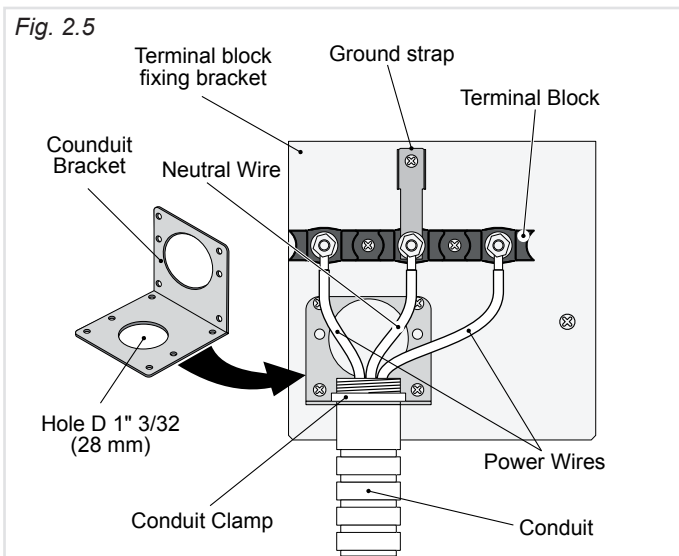

Fig. 2.5
2. Check the correct positioning of the **Conduit Bracket** as per figure 2.5.